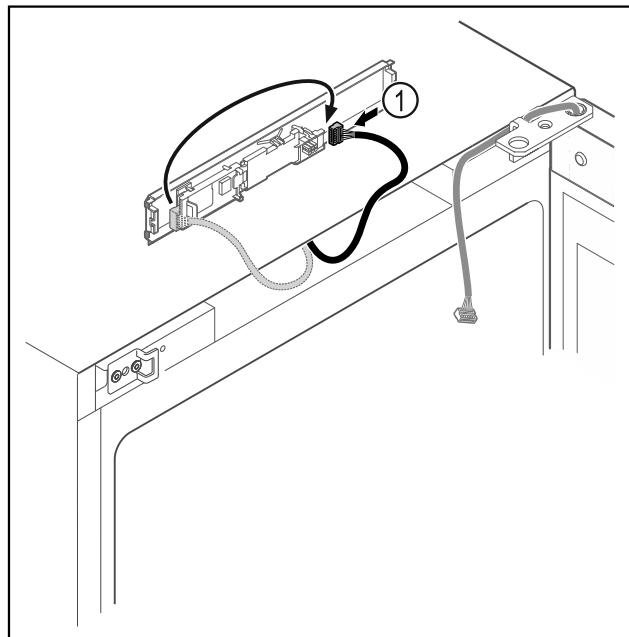

Fig. 15
- Connect the plug Fig. 15 (1) to the circuit board.